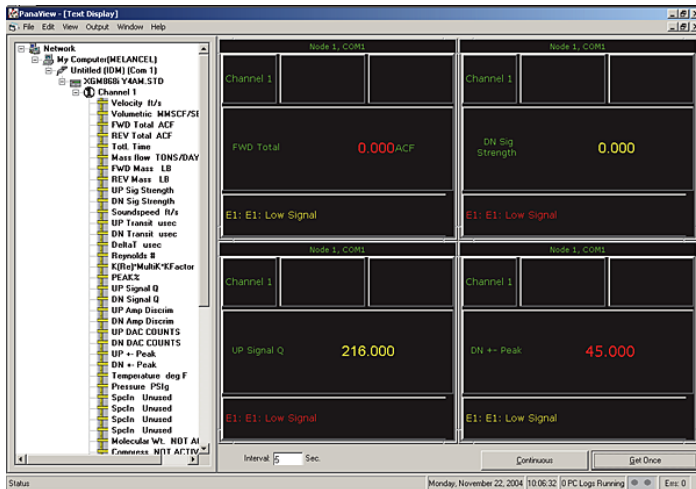

Figure 21: Multiple text screens in the text display window
2. Repeat Step 1 for any desired additional process parameters, by double clicking on them in the PanaView network tree. *PanaView* automatically tiles the multiple text screens in the right pane of the *Text Display* window, as shown in *Figure 21* below.